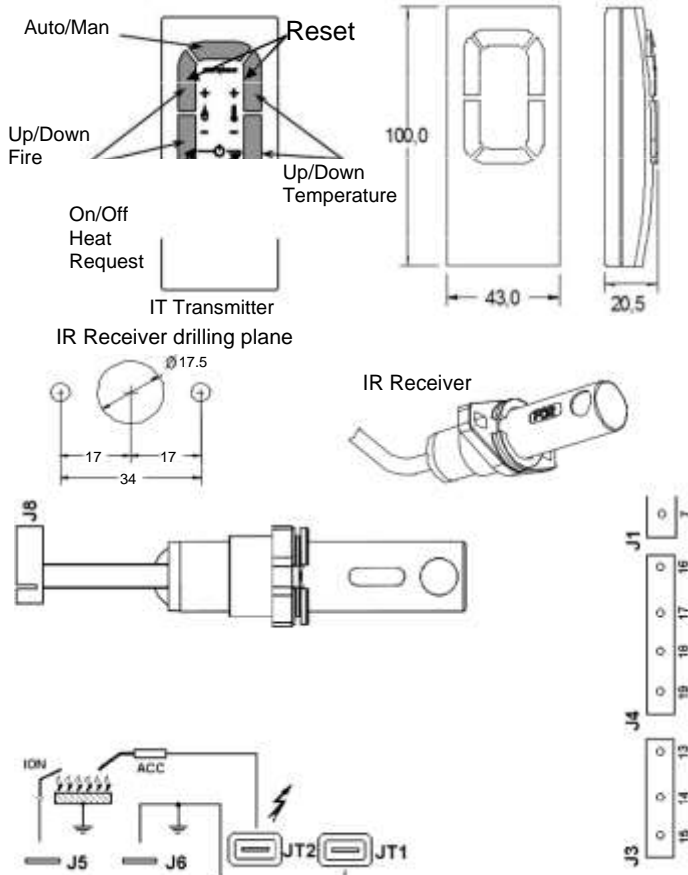

Fig. 5.e – Transmitter and Receiver dimensions, fixing and wiring diagram to NDM device with option URn.
During operation, the contact of the heat request (T) of the NDM device must be in working position. Figure 5.a shows the overall dimensions (mm) of the transmitter, the sizes of the fixing templates (mm) of the receiver and the wiring diagram of the receiver to the J8 gate of NDM or NDMO devices with URn options
The heat request, by the IR transmitter, is activated (or deactivated) by simultaneously pushing of the "down" buttons, while the reset is activated by simultaneously pushing of the "up" buttons (see fig. 5). The reset are limited to 5 actions every 15min. The functions up/down and auto/man of the IR transmitter can be set on request.